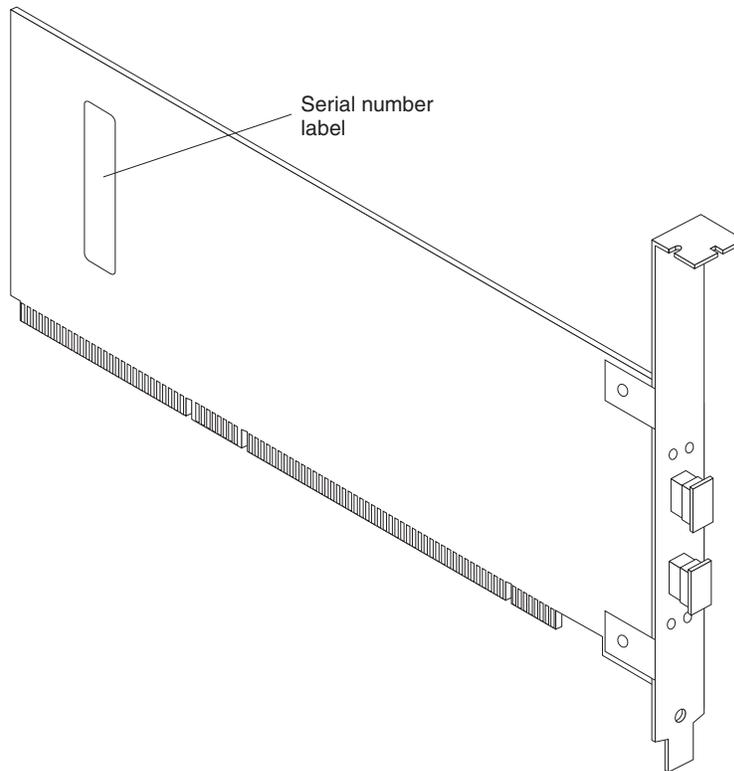

Figure 3. DS4000 FC2-133 serial number label
- Write down the serial number of the DS4000 FC2-133. Each adapter has a unique serial number. If the nonvolatile random access memory (NVRAM) (also referred to as NOVRAM) is damaged, the system prompts you for the DS4000 FC2-133 serial number. Figure 3 on page 4 shows the location of the serial number label.